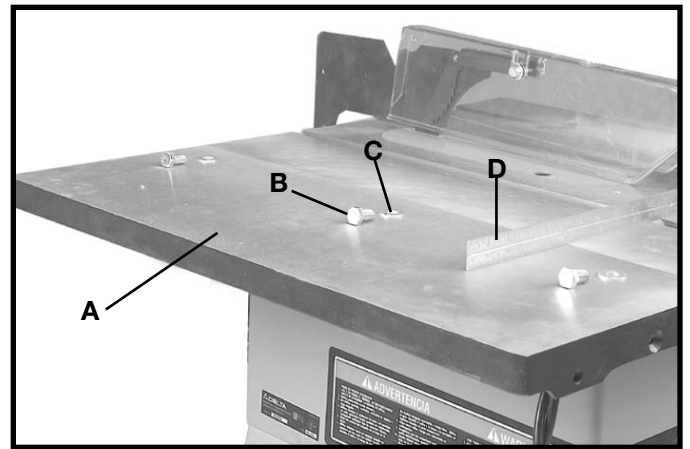
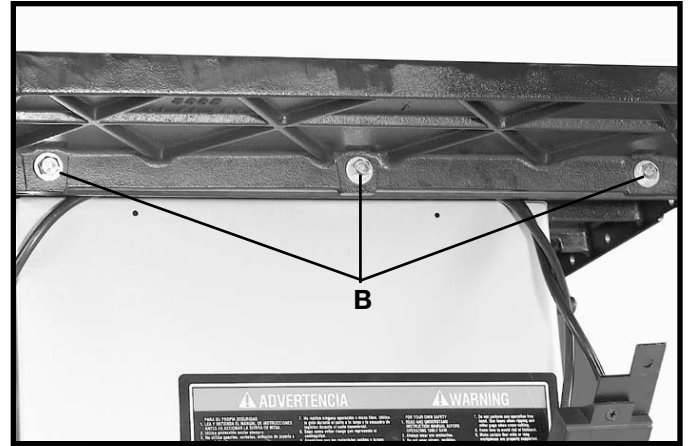

Fig. 39
Fig. 40
1. Assemble extension wing (A) Fig. 39, to the saw table using three 7/16-20 x 1-1/4" screws (B) and lockwashers (C) Fig. 39.
2. With a straight edge (D) Fig. 39, make certain the extension wing (A) is level with the saw table before tightening three screws (B) Fig. 40.